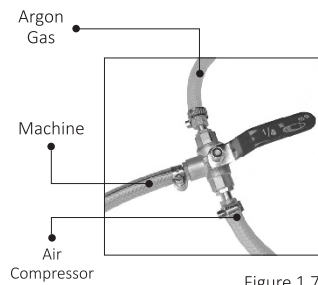

Figure 1.7
a) If you switch from plasma cutting to TIG welding quite often, need buying a 3 way valve kit to connect both the argon tank (Figure 1.7) and the air compressor simultaneously.